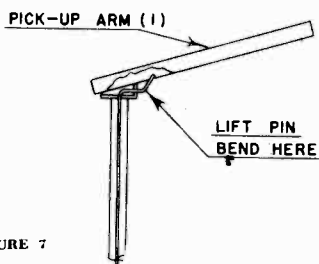

FIGURE 7
Readjust end of Lift Pin (23) so that needle will play first record. (See Figure 7.) (Note: Do not bend Lift Pin (23) too much as this will prevent playing of top record on full stack.)